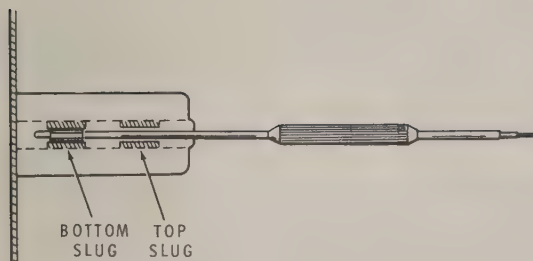

Figure 1-31A
- () Refer to Figure 1-31A and adjust both slugs of T376 for the best sound with the least amount of noise from the speaker. As the sound improves, move the antenna leads farther away and repeat the adjustment.